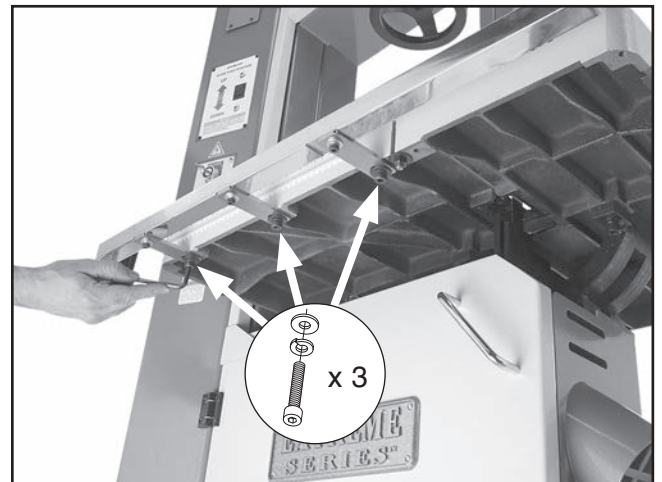

Figure 10. Fence rail in the correct position.
1. Remove the three cap screws, lock washers, and flat washers shown in **Figure 10**.